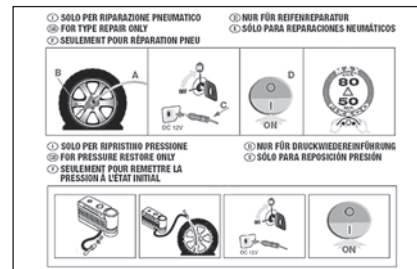

fig. 8
- instruction brochure (see **fig. 8**), to be used for prompt and proper use of the quick repair kit and then presented to the personnel charged with handling the treated tyre;